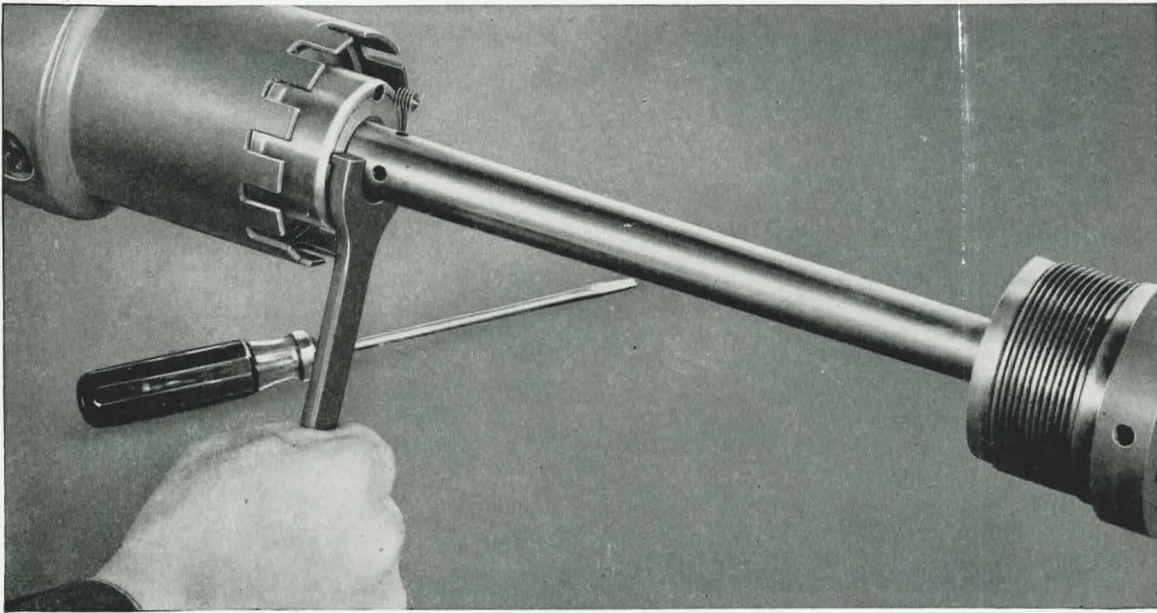

Figure 52
- (1) Push in the piston rod (298734-1).
- (2) Install the leather washer (298739-6) and the throttling rod assembly.
- f. Tighten the throttling bushing, **Figure 52**, and install the locking screw.
- (1) With spanner wrench (298874-1), tighten the throttling bushing (298732-8) and install the locking screw (1/4"—20 x 5/16").